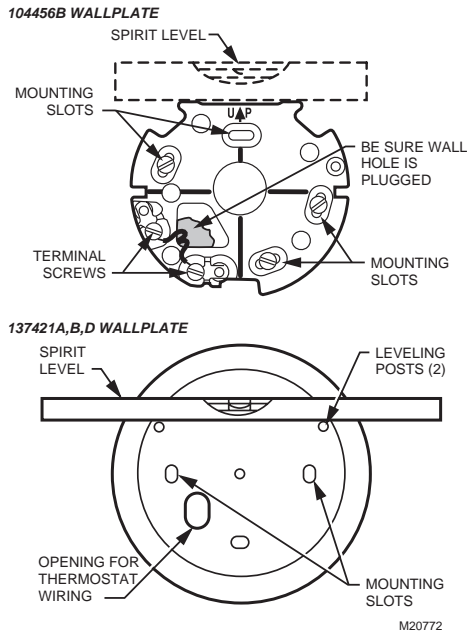

Fig. 1. Level 104456B, 137421A,B,D Wallplates.
Use a spirit level to accurately level the wallplate or subbase as shown in Fig. 1. Inaccurate leveling may cause the thermostat to deviate from setpoint.
4. Level the wallplate as shown in Fig. 1 and tighten the screws.